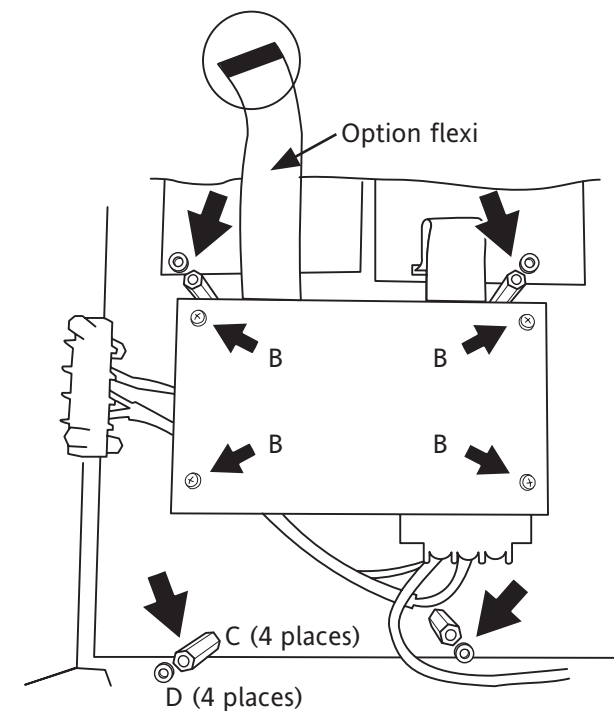

Figure 2.2.2a Fitting the stand-off pillars
1. Fit 4 off 43 mm stand-off pillars (BE250365U430 - 'C' in figure 2.2.2a), and tighten fully, using a 4BA spanner or nut runner. Fit a nylon washer ('D') to each of the stand off pillars, using a small piece of double sided tape to secure them temporarily.